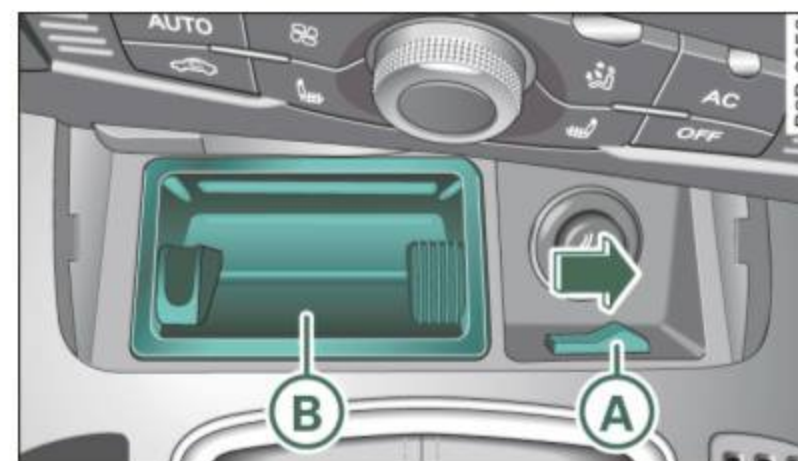

Fig. 159 Removing ashtray insert
- Release the ashtray by pushing the switch **(A)** ⇒ *page 154*, *fig. 159* to the right.